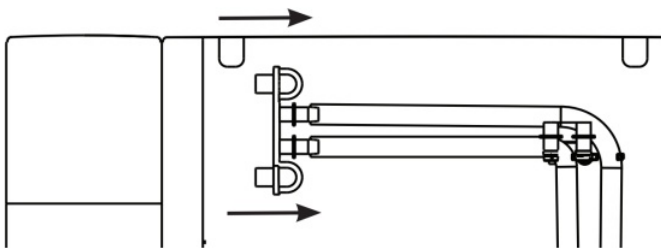

Figure 8
15. Replace drain tubes on back. See figure 8.